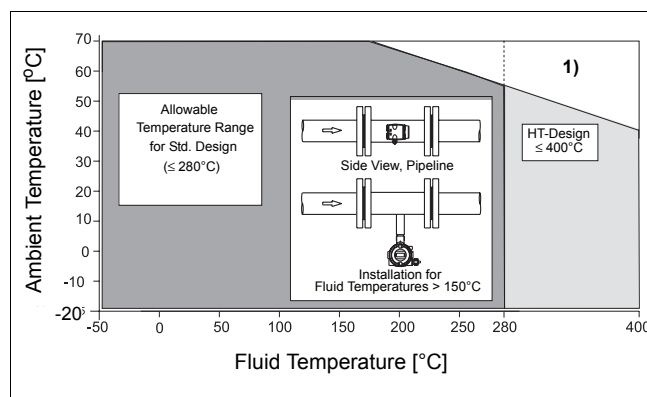

FIGURE 3-13 AMBIENT/FLUID TEMPERATURE RELATIONSHIP
When operating at elevated temperatures, the interrelationship between the fluid and ambient temperatures must be taken into consideration. Figure 3-13 shows the allowable operating range for ambient vs. process fluid temperatures.
1) Cables suitable 230° F (110°C) can be used for the power supply terminals 31, 32 and the contact output terminals 41, 42 without any reduction in the temperature range specifications. Cables suitable only for temperatures of 175° F (80°C) reduce the temperature range of the flowmeter as shown in Figure 3-13.